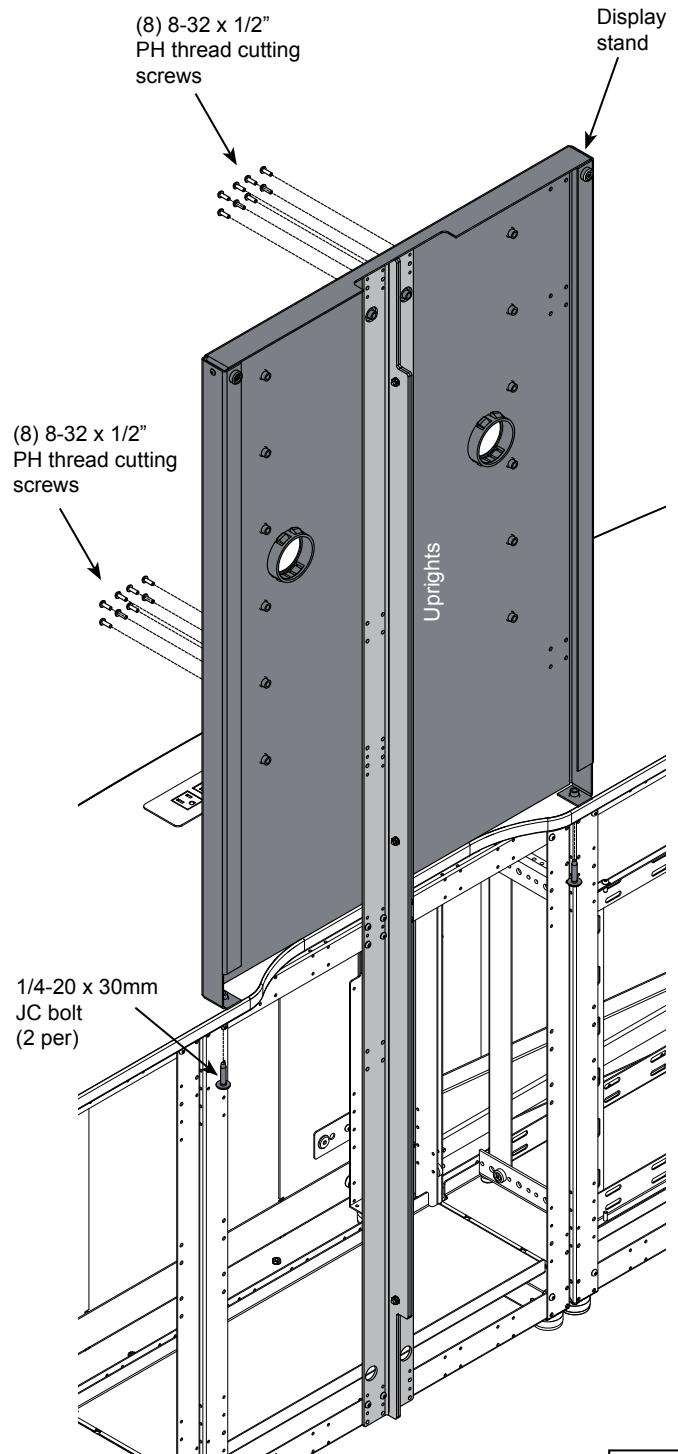

Figure 3
1. Attach the display stand to the uprights with (16) 8-32 x 1/2" thread-cutting screws. **Figure 3.**
2. Secure the stand to the worksurface with (2) 1/4-20 x 30mm JC bolts.